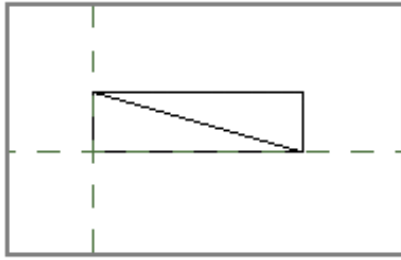

FIGURE 11.12 Creating a blocking detail component
3. On the **Create** tab, click the **Line** tool, and draw a line diagonally across the box to denote blocking. The family should look like Figure 11.12.